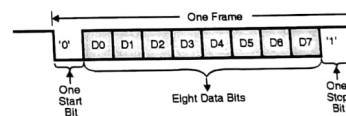

Fig. 3.5.3 : Transmission on of 1 byte, formed by 1 start and 1 stop bit
- Fig. 3.5.3 shows the UART data word.